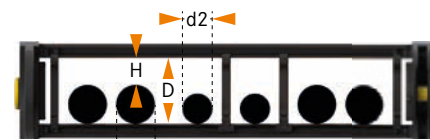

Fig. 3
3) If several cables/hoses are used, it is preferable to avoid them rubbing each other by placing them in an isolated space and using separators to separate them. If this is not possible, verify that the internal space does not allow cables/hoses to be twisted. $H < d2$ or, for any couples of utilities not separated each other, $\rightarrow d1 + d2 > D$ (Fig. 3)